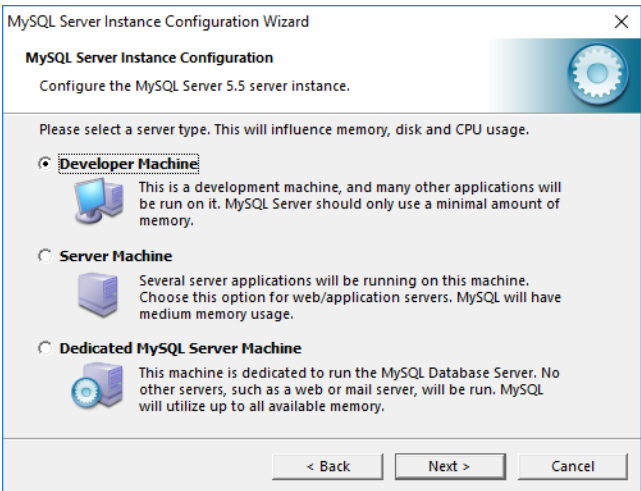

Figure A9
3. Leave "Developer Machine" selected and click "Next". (Figure A9)